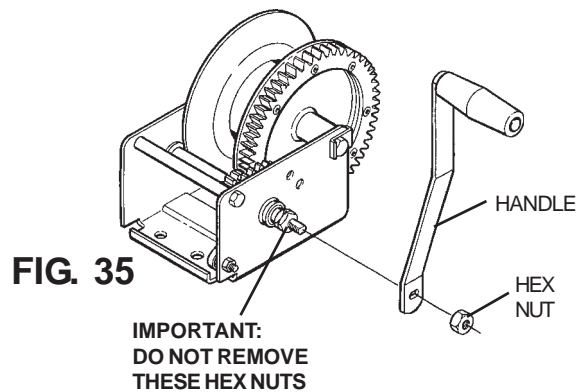

FIG. 35
33. Align slot of handle with flat portion of winch pinion shaft. Use hex nut to hold handle in place and tighten securely. For additional winch information, follow the instructions and precautions listed in the material supplied with the winch from the manufacturer. See Fig. 35.